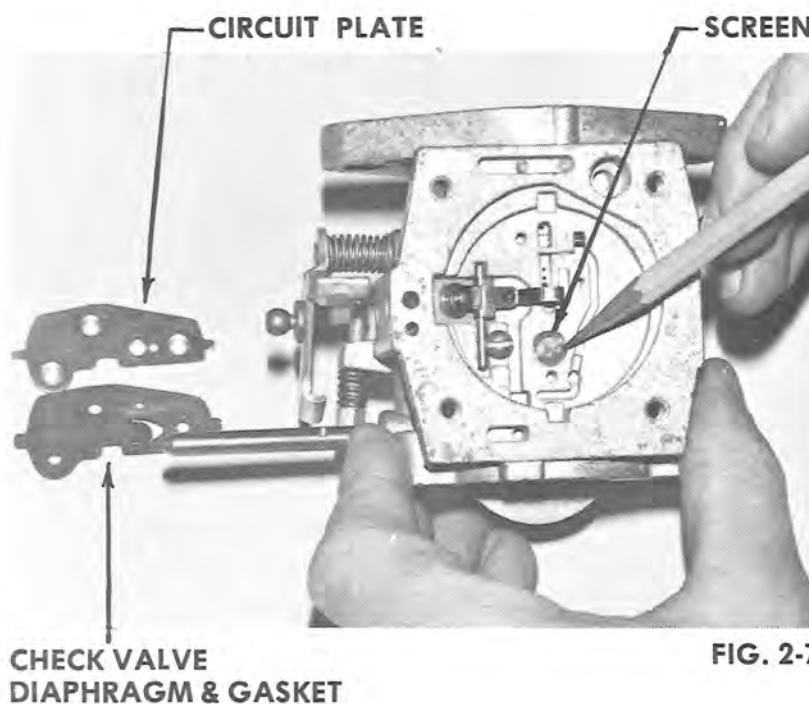

FIG. 2-7
3. Remove circuit plate, check valve diaphragm and gasket. (FIG. 2-7)
NOTE - DO NOT REMOVE SCREEN UNDER HIGH SPEED NEEDLE. CARBURETOR WILL NOT FUNCTION WITH SCREEN REMOVED. (See FIG. 2-7)